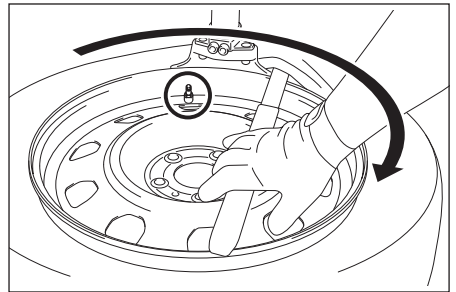

Fig. 2
5. When dismantling the tire from the rim the sensor should be slightly ahead of the tire machine head. The tire should be dismantled without contact to the sensor which may cause damage to the sensor. (see Fig. 2)